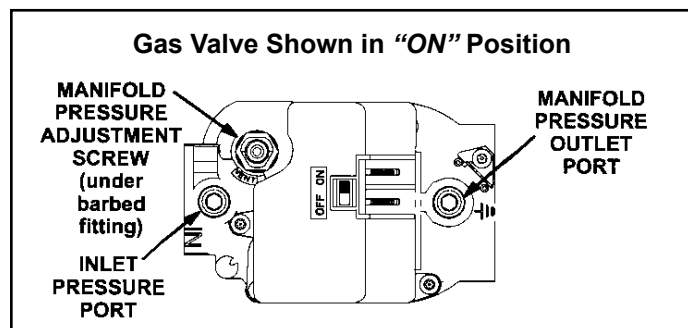

Figure 34.
See Figure 34
6. Move switch on gas valve to OFF. Do not force. See Figure 34.
8. Move switch on gas valve to ON. Do not force. See Figure 34.